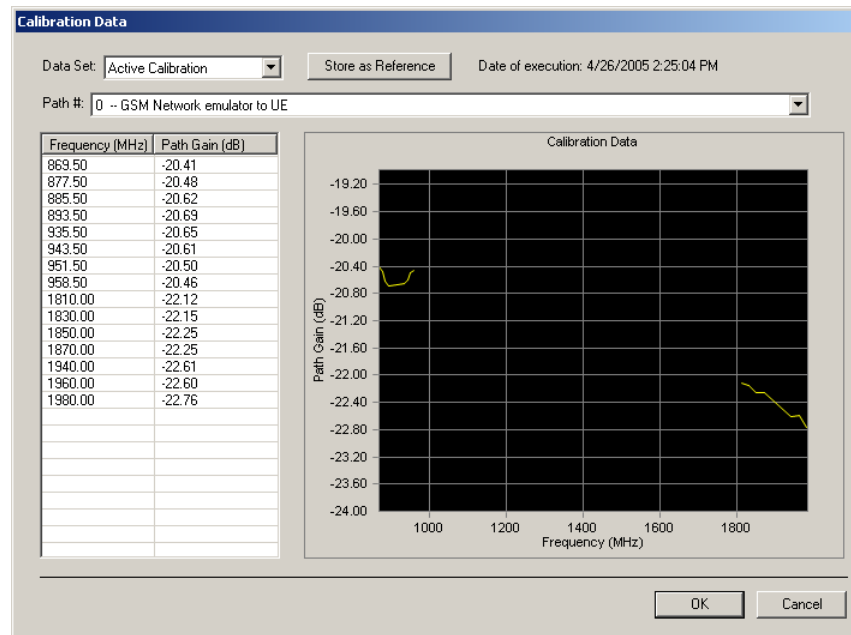

Figure 4-9: Location Based Calibration - Calibration Data Window
6. After the calibration is finished, the *Calibration Data* window displays data in tabular and graphical format, as shown in Figure 4-9.
The Calibration Data Window allows you to browse through the calibration data for various signal paths by selecting the Path number. A text description of the path is provided next to the path number. To track system drift over time, set TestDrive to record calibration data as a Reference Calibration by clicking the **Store as Reference** button, shown in Figure 4-9.